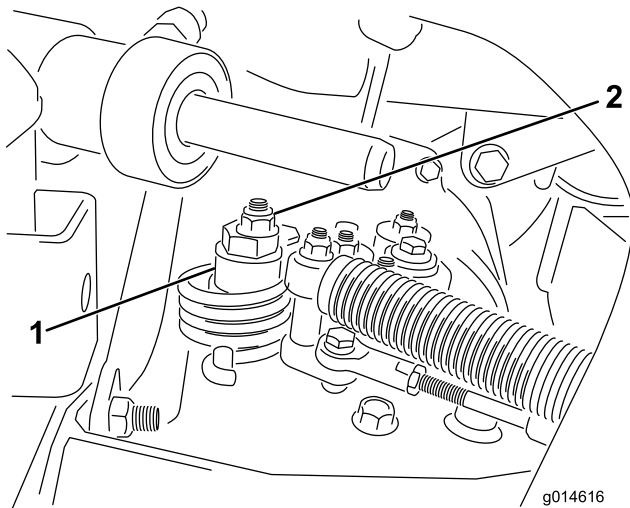

Figure 48
- A. Loosen the nut securing the eccentric to the top of the hydrostat (Figure 48).
- C. Rotate the eccentric until creep does not occur in either direction. When the wheel stops rotating, tighten the nut locking the eccentric and the adjustment (Figure 48). Verify the adjustment with the throttle in the Slow and Fast position.